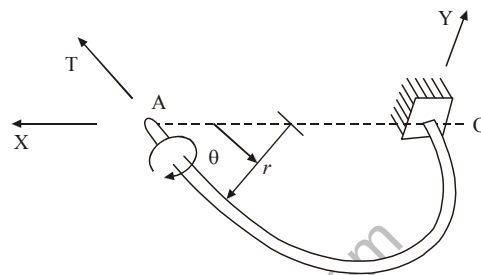

Fig. 2
4. The end of the semi-circular member shown in Figure 2 is subjected to Torque T . What is the twist of the end A? The member is circular in section.